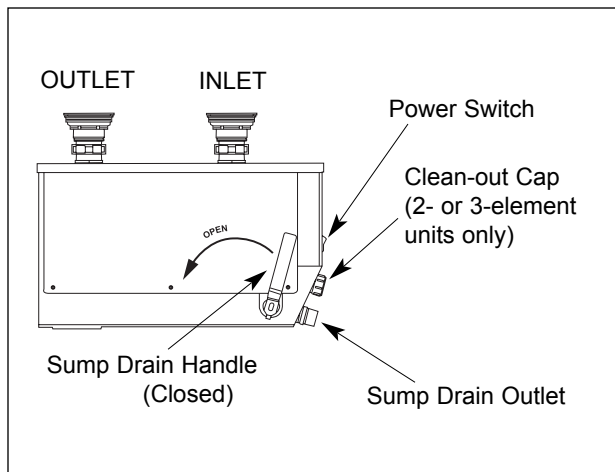

Figure 8. Hydro-Heater Side View
DAILY (See Figure 8)
8. Close sump drain by moving handle all of the way forward **until it stops**. See Figure 8.
WEEKLY (See Figure 8)